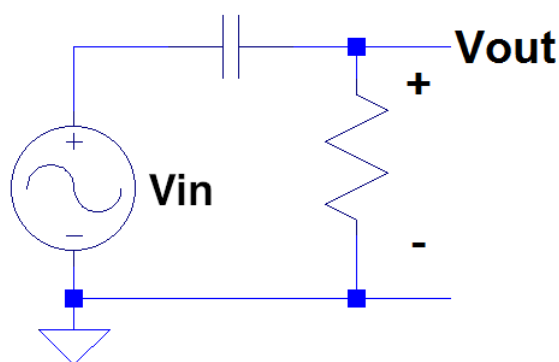

Figure 5.1: Pre-lab Circuit A
1. What is the final equation for V_{out} in figure 5.1 and sketch V_{out} vs. Frequency.